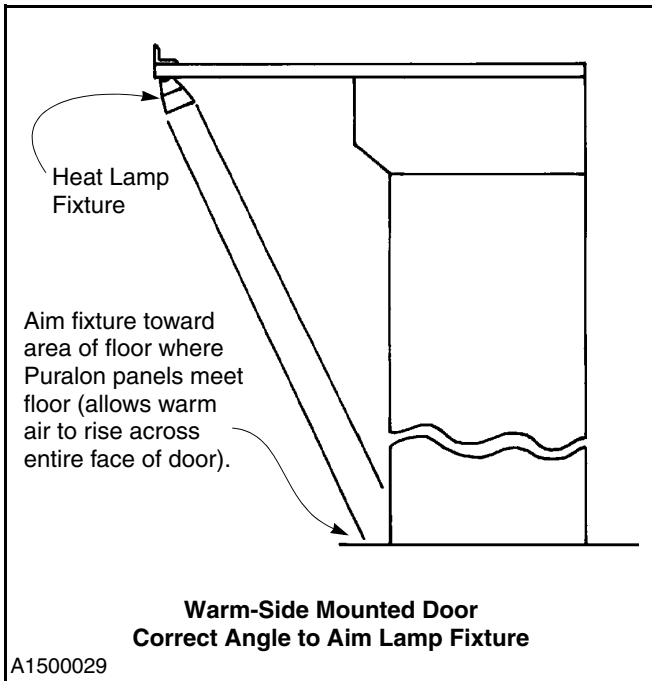
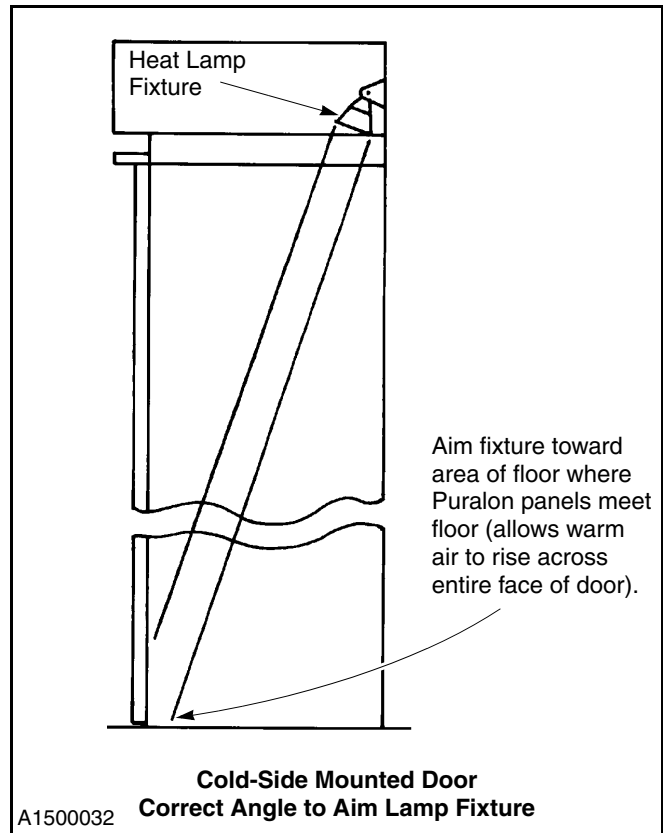
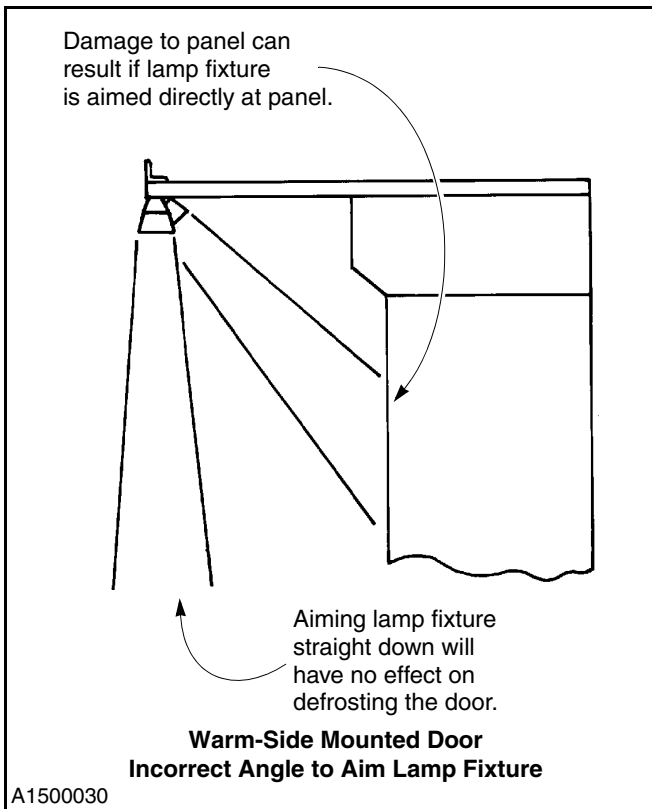
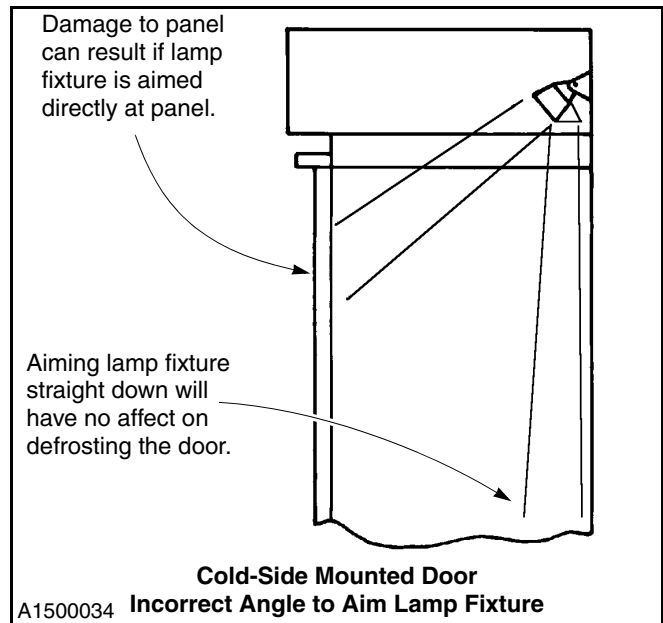

Figure 34
Figure 36
Figure 35
Figure 37
3. Direct the heat lamp fixture(s) to aim at the area of the floor where the panels of the door meet the floor. (See Figure 34 through Figure 37.)
Figure 34 and Figure 36 show the correct method for aiming a lamp fixture. Figure 35 and Figure 37 show the incorrect method.